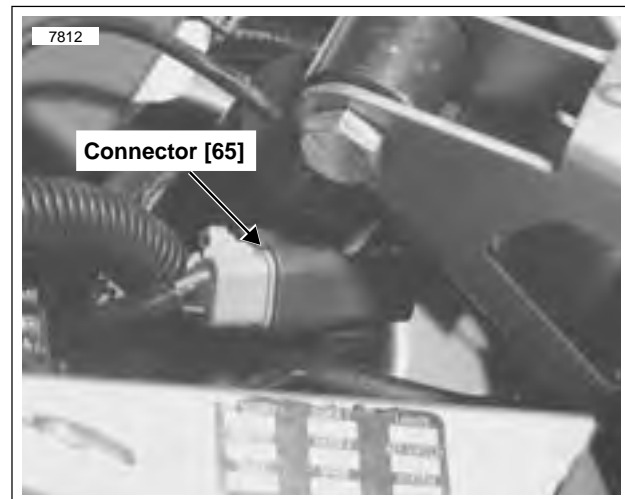

Figure 7-89. Speedometer Sensor Connector [65]
1. See Figure 7-89. Locate the 3-place Deutsch connector [65] for the speedometer sensor to right of battery and disconnect.
1. See Figure 7-89. Disconnect speedometer sensor connector. Attach speedometer tester connector to speedometer sensor connector.